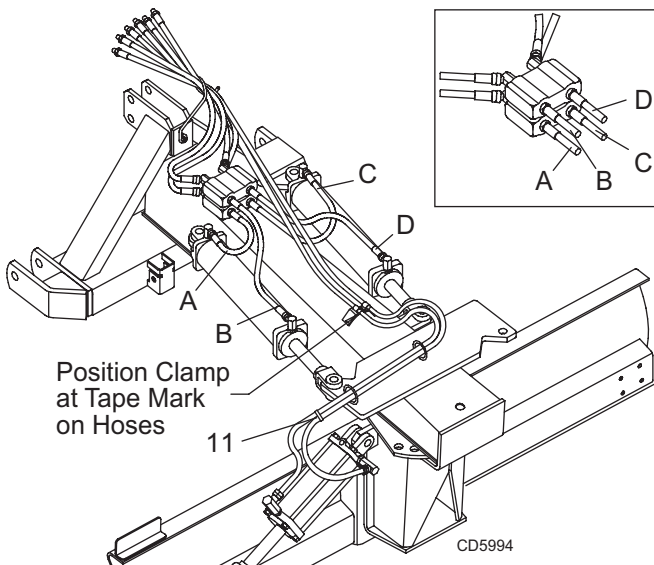
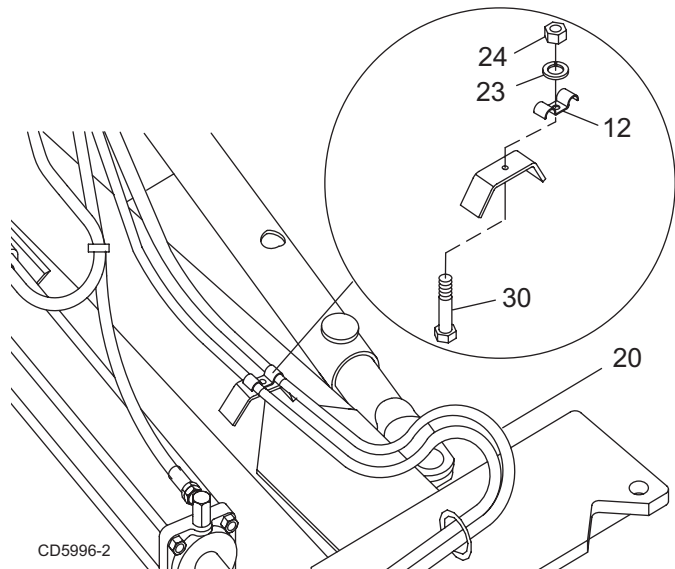

Figure 24. RB750H/RB850H Hose Routing
Figure 25. Hose Clamp Installation
6. Attach hose clamp (12) to boom as shown in Figure 25.
7. Position tape marked on hoses (20) at hose clamp (12).
8. Secure hose clamp (12) with cap screw (30), lock washer (23), and hex nut (24).
9. Route hoses as shown in Figure 24.